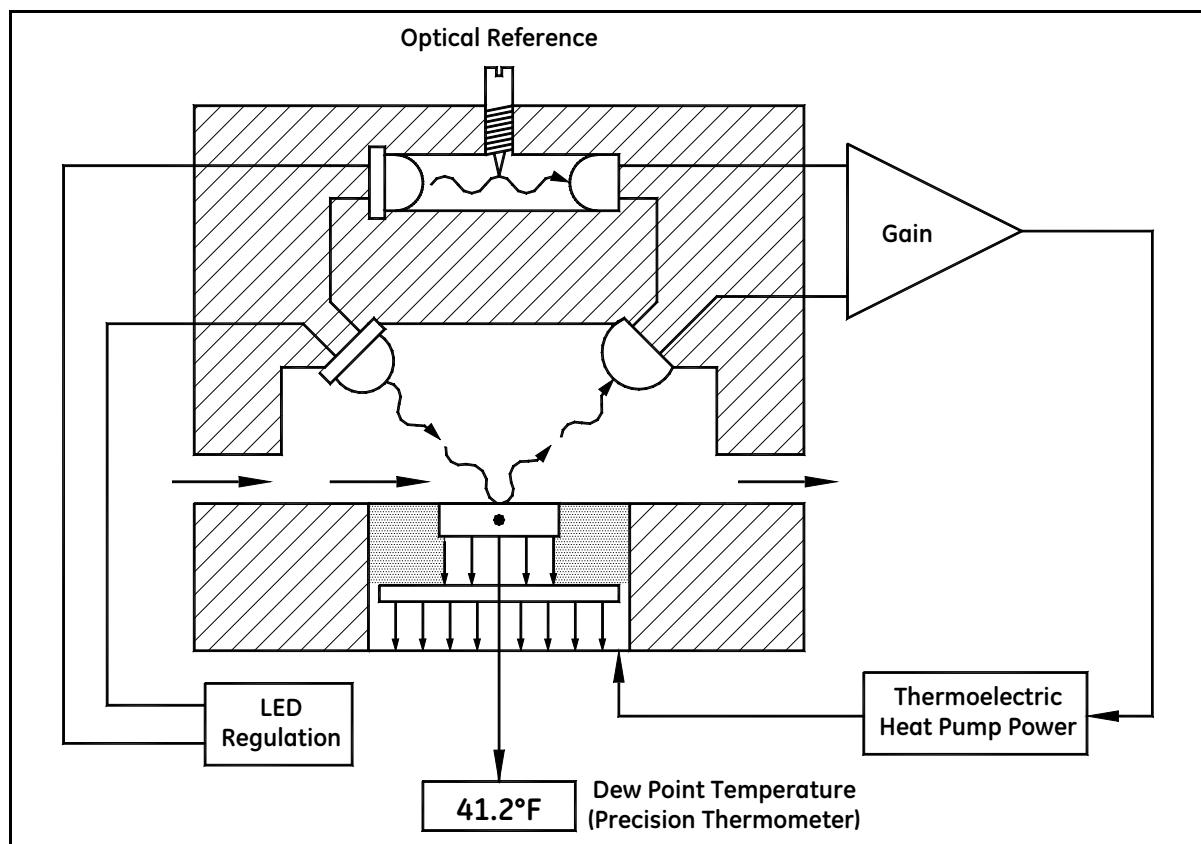

Figure 2: Chilled-Mirror Hygrometer Diagram
Figure 2 below illustrates how GE Measurement & Control hygrometers detect and measure dew point. The condensate mirror is illuminated with a solid state, infrared emitter (IR). A photodetector monitors the IR light reflected from the mirror. The photodetector is fully illuminated when the mirror is clear of dew, and it receives less light as dew forms. A separate LED and photodetector pair are used as a known reference to compensate for any thermally induced changes in the optical components. The photodetectors are arranged in an electrical bridge circuit, the output current of which is proportional to the light reflected from the mirror. The bridge output controls the electrical current to the thermoelectric cooler.